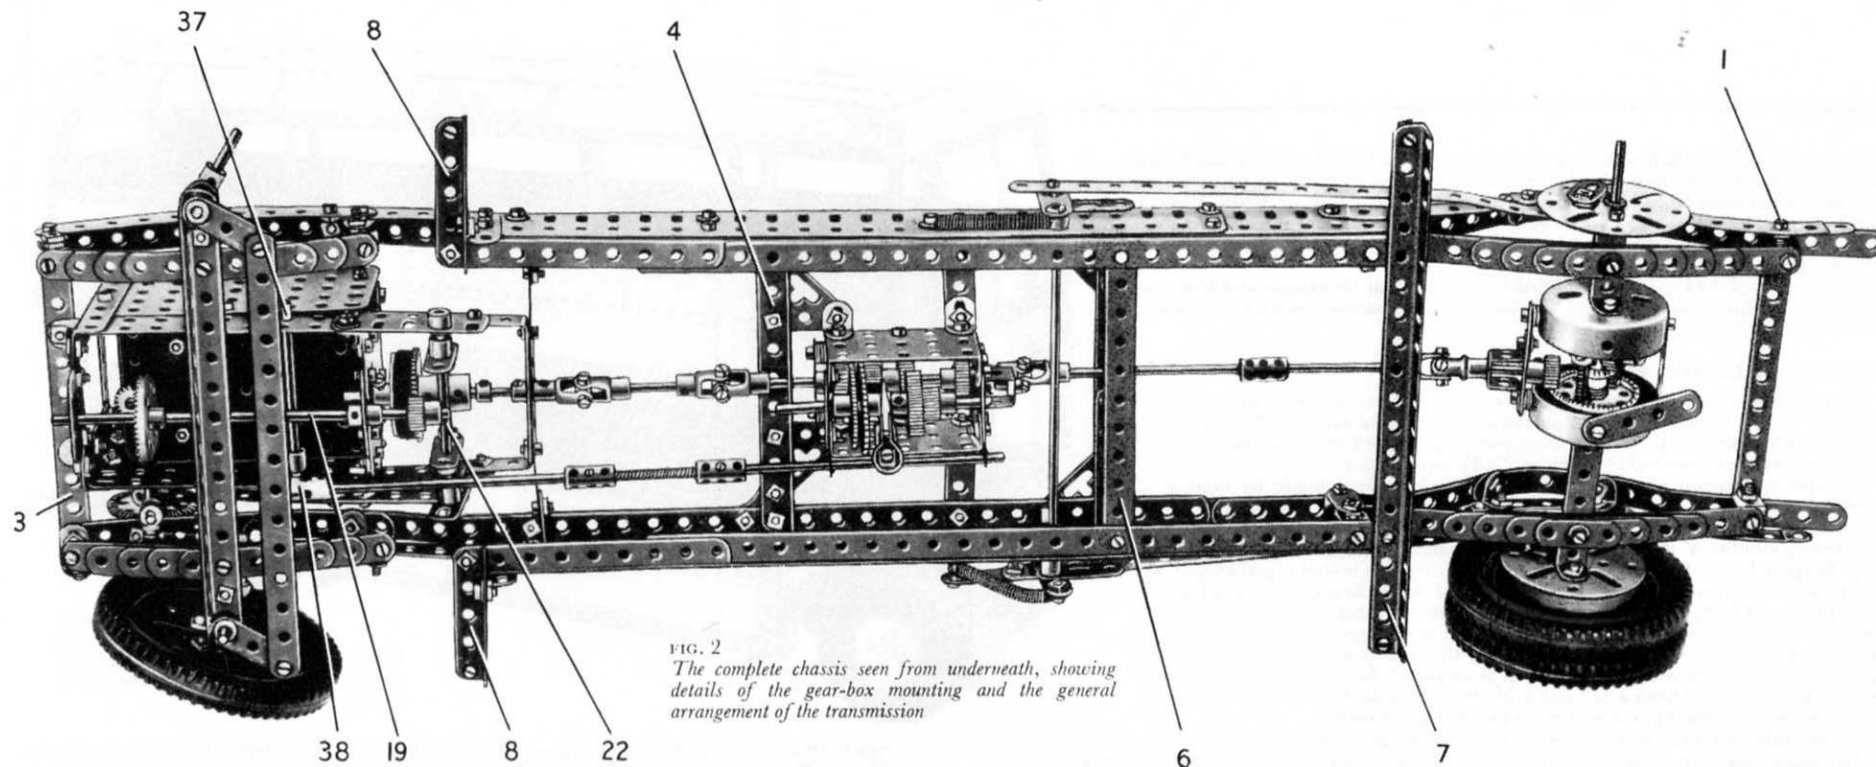
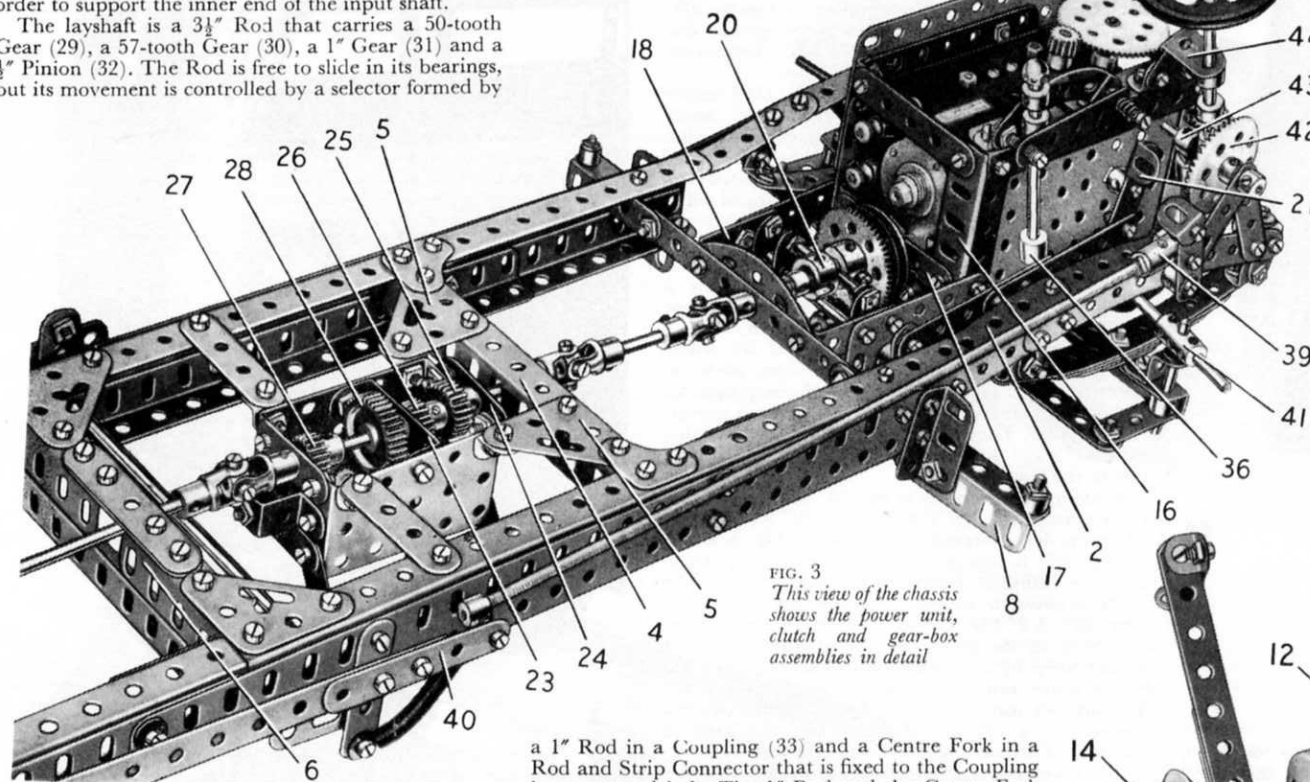

FIG. 2
FIG. 3
Details of the Chassis (Fig. 2)
Engine Unit and Clutch (Figs. 2, 3 and 6)
The pedal (21) (Fig. 3) for operating the clutch is made by bolting an Angle Bracket to a Double Arm Crank, which pivots on a $\frac{1}{2}$ " Bolt fixed to the side of the engine unit by two nuts. A built-up strip, made from two 3" Strips overlapped three holes, is *lock-nutted* to the lower arm of the clutch pedal and is *lock-nutted* also to another Double Arm Crank on a $3\frac{1}{2}$ " Rod (22). This Rod is mounted in the $2\frac{1}{2}$ " Flat Girders of the unit, and is located in their slotted holes by Fishplates bolted to the Flat Girders. Two Double Arm Cranks, each fitted with a Threaded
The sides are connected at the front by two $2\frac{1}{2}$ " Strips bolted to the Angle Girders, and at the rear are joined by a $2\frac{1}{2}$ " Strip fixed to the Girder (16) of one side and attached to the other side by an Angle Bracket. Two $2\frac{1}{2}$ " Strips, the upper one indicated at (17) (Fig. 3) are fixed also to the Girder (16), and are attached to the opposite side by Angle Brackets. A $2\frac{1}{2}$ " Flat Girder is bolted to each side of the unit, and these are connected by a $2\frac{1}{2}$ " \times $1\frac{1}{2}$ " Double Angle Strip (18), which is strengthened by a $2\frac{1}{2}$ " Stepped Curved Strip.
Details of the Gear-box (Figs. 3 and 5)
The gear-box is shown separately in Fig. 5. The housing consists of two $2\frac{1}{2}$ " \times $1\frac{1}{2}$ " Flanged Plates connected by a $1\frac{1}{2}$ " \times $\frac{1}{2}$ " Double Angle Strip (23) and joined at each end by two $1\frac{1}{2}$ " Strips. One of these Strips, indicated at (24) (Fig. 3), is spaced from the Flanged Plates by three Washers on each of the $\frac{3}{8}$ " Bolts that holds it in position.
The gear selector lever is fixed at its lower end in a Rod Socket (36) (Fig. 3). The shank of the Rod Socket is screwed tightly into a Collar on a $3\frac{1}{2}$ " Rod (37) (Fig. 2), which is mounted in the engine unit and carries a Crank. A Strip Coupling (38) is pivotally attached to the Crank by a $\frac{1}{2}$ " Bolt, and is connected to the Rod (34) by a $4\frac{1}{2}$ " Rod, two Couplings and a Flexible Coupling Unit.
The Brake Operating Mechanism (Fig. 2, 3 and 6)
The brake pedal is made by bolting an Angle Bracket to a Crank pivoted on a $\frac{1}{2}$ " Bolt attached to the chassis by two nuts (see Figs. 3 and 6). A Threaded Coupling (39) is locked by two nuts on a $\frac{3}{4}$ " Bolt passed freely through the Crank, and an $11\frac{1}{2}$ " Screwed Rod is fixed in the Threaded Coupling by a nut. A Collar is fixed on the rear end of the Screwed Rod by a $\frac{3}{8}$ " Bolt, which is passed through the end hole of a built-up strip (40). This strip consists of a $9\frac{1}{2}$ " and a $2\frac{1}{2}$ " Strip overlapped three holes, and its rear end is lock-nutted to a $\frac{3}{8}$ " Bolt passed through the Fishplate (13) (Fig. 6) of one of the brakes.
The strip (40) is pivotally connected to one arm of a Bell Crank (Fig. 3) by a lock-nutted $\frac{3}{8}$ " Bolt, and a 2" Strip is also bolted to this arm. A Spring is fitted between the lower end of the 2" Strip and the $\frac{3}{8}$ " Bolt in the Collar at the end of the $11\frac{1}{2}$ " Screwed Rod. The Bell Crank is fixed on one end of a $6\frac{1}{2}$ " Rod mounted across the chassis, and another Bell Crank is secured to the
Front Axle and Steering (Figs. 2, 3 and 6)
The front axle beam is a $7\frac{1}{2}$ " Angle Girder (Fig. 2) and is attached to two leaf-springs, each of which consists of a $5\frac{1}{2}$ ", a $4\frac{1}{2}$ ", a $3\frac{1}{2}$ ", a $2\frac{1}{2}$ " and a $1\frac{1}{2}$ " Strip. An Angle Bracket is fixed to each end of each spring, and these are *lock-nutted* to Fishplates bolted to the chassis. A $\frac{1}{2}$ " Reversed Angle Bracket is fixed to each end of the axle beam.
Each front wheel is freely mounted on a 1" Rod fixed in a Coupling (41) (Figs. 3 and 6). The wheels are held on the Rods by Collars. The Couplings (41) are fixed on 2" Rods supported in the ends of the axle beam and in the $\frac{1}{2}$ " Reversed Angle Brackets. Cranks fitted to the lower ends of the 2" Rods are connected by a $7\frac{1}{2}$ " Strip pivoted on *lock-nutted* bolts.
Girders (7) and (8) (Fig. 2). At the front the body is spaced from each of the Girders (8) by a Collar.